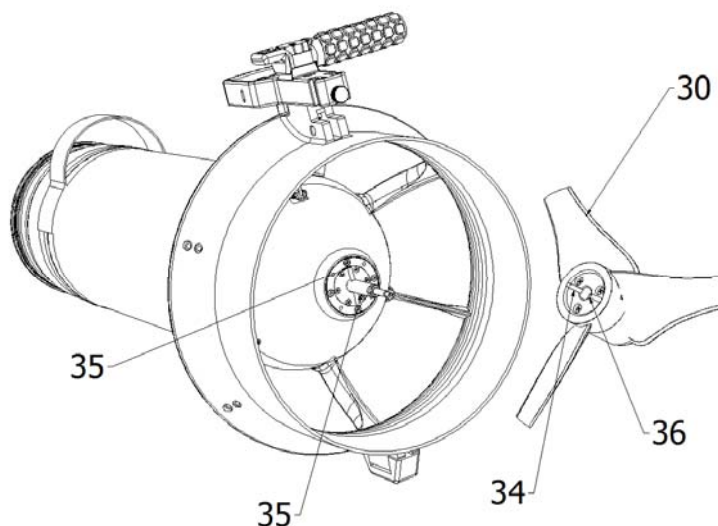

Figure 10
THE PLUG (33) MUST BE ALIGNED WITH THE HOUSING (34) FOR CORRECT PROP LOCK PROPELLER POSITIONING AND OPERATIONS. (see fig. 10)